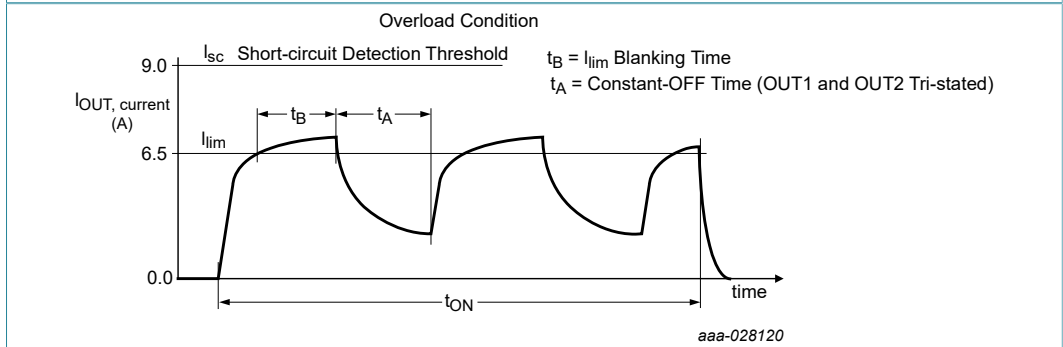

Figure 8. Current limit blanking time and constant-off time
- [9] Load currents ramping up to the current regulation threshold become limited at the I_{LIM} value (see Figure 8). The short-circuit currents possess a di/dt that ramps up to the I_{SCH} or I_{SCL} threshold during the I_{LIM} blanking time, registering as a short-circuit event detection and causing the shutdown circuitry to force the output into an immediate 3-state latch-off (see Figure 9). Operation in current limit mode may cause junction temperatures to rise. Junction temperatures above $\sim 160\text{ }^\circ\text{C}$ causes the output current limit threshold to "foldback", or decrease, until $\sim 175\text{ }^\circ\text{C}$ is reached, after which the T_{LIM} thermal latch-off occurs. Permissible operation within this foldback region is limited to non-repetitive transient events of duration not to exceed 30 seconds (see Figure 10).